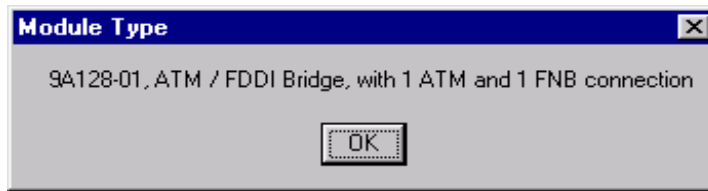

Figure 2-7. Module Type Window
2. Drag down to **Module Type....** The Module Type text box, Figure 2-7, will appear.